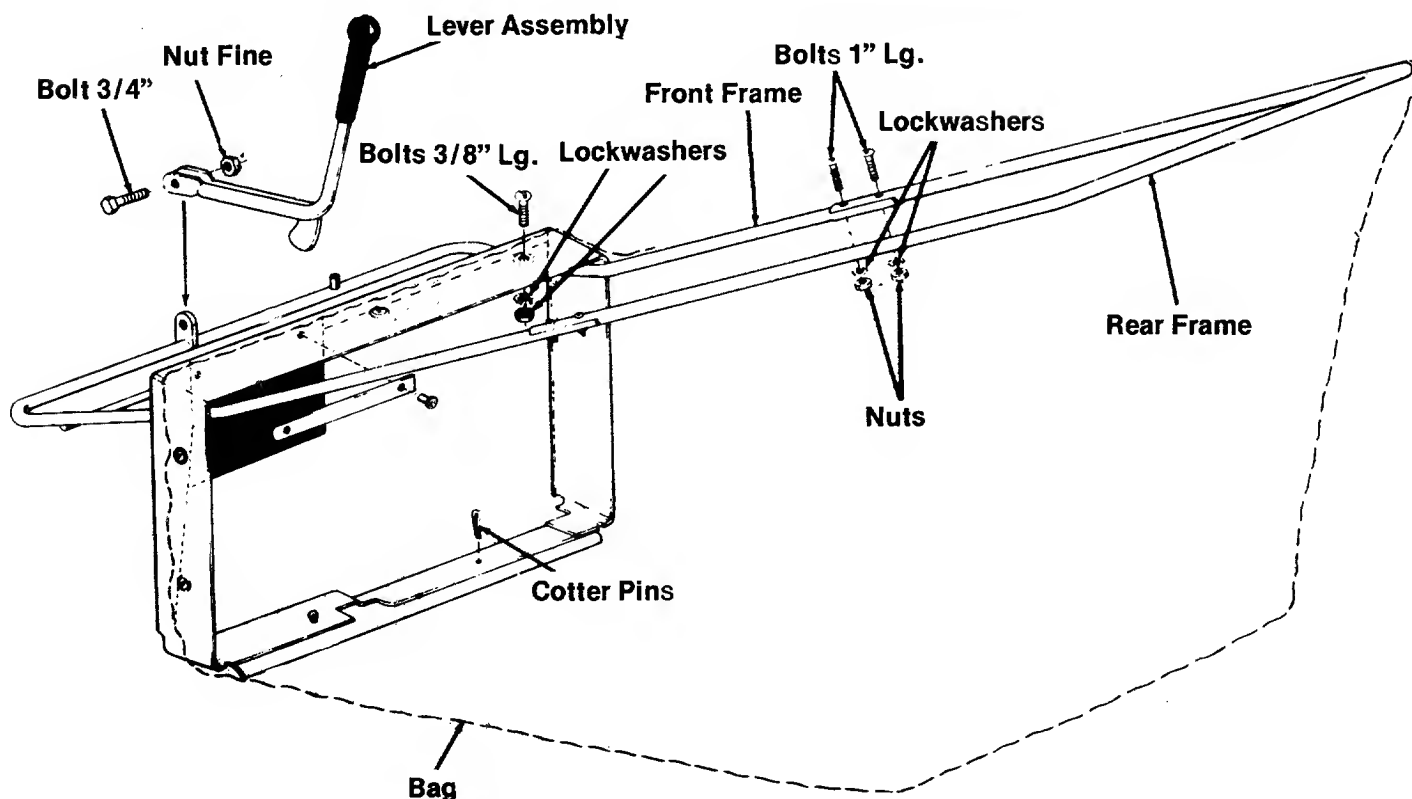

FIGURE 6
3. Assemble the rear frame to the front frame with the four 1" bolts, lockwashers and nuts. See figure 6.